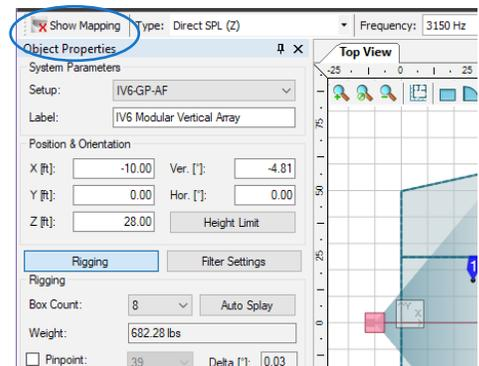

Figure 21. Show mapping turned off
**Designer's Hint:** Before running "Filter Auto Setup", turn off "Show Mapping" in the main EF3 window (Figure 21). This will prevent EF3 from attempting to calculate PAO settings and the color coverage map at the same time, greatly increasing the PAO calculation speed. The array aiming center line for each array must be pointed directly at an audience area, intersecting the full length of the audience area.